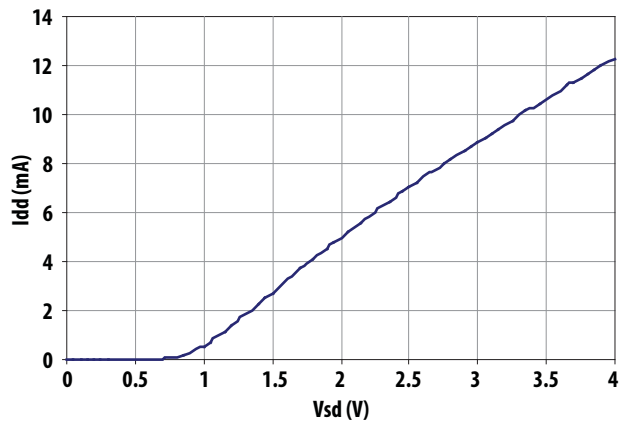

Figure 9. I_{dd} vs V_{sd} for $V_{dd} = 2.7$ V, $R1 = 8.2$ kOhm
- Figs 9, 10 and 11 show the different bias currents that can be obtained by varying Vsd and $R1$.